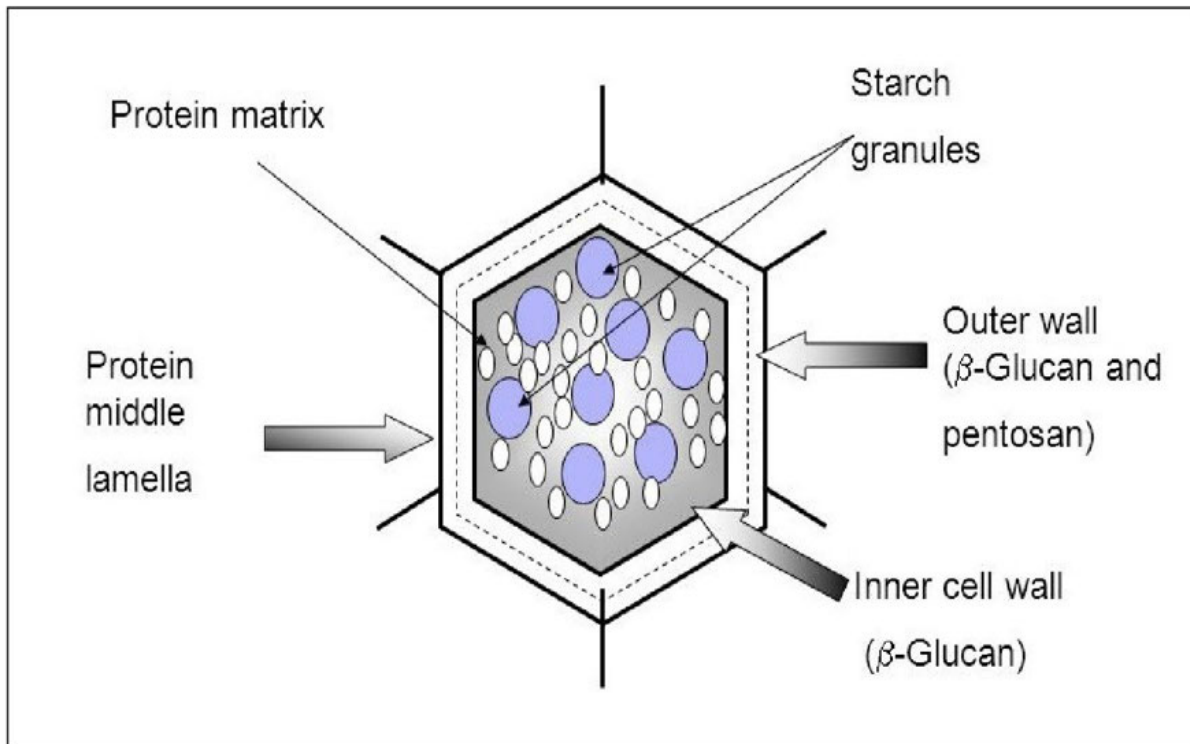

Figure 24 – Endosperm cell layers
Each cell is a three-layer sandwich where a middle layer of protein is surrounded by two layers (one on each side) of the glucans and pentosans. There is currently some debate among leading scientists as to whether the pentosan is only on one of the layers or on both. There is further debate as to whether the outer layers of the wall structure are solid or perforated. Figure 24 illustrates the construct of the cell wall. (12)
Beta-Glucan solubilase, endo (1,3) and endo (1,4) beta glucanase, which collectively attack the beta glucans in the endosperm cell wall and the links to the protein lamella layer (see Fig. 24).